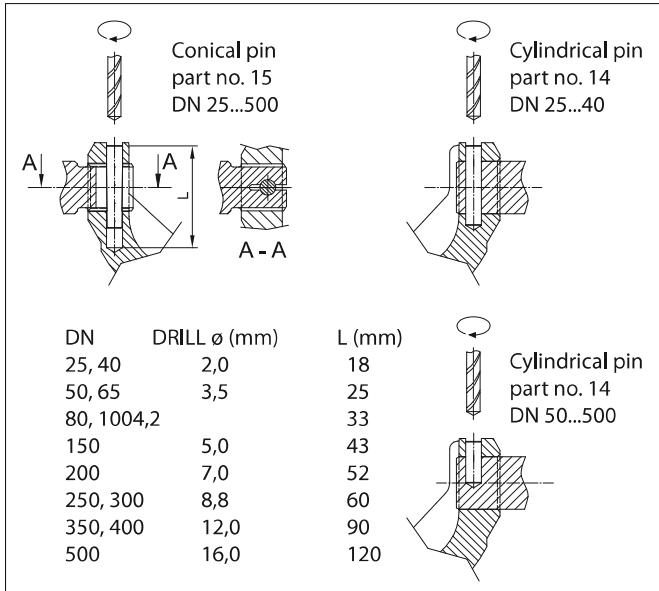
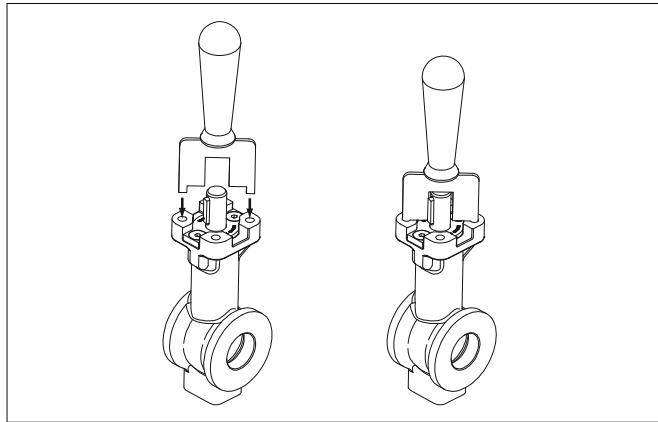
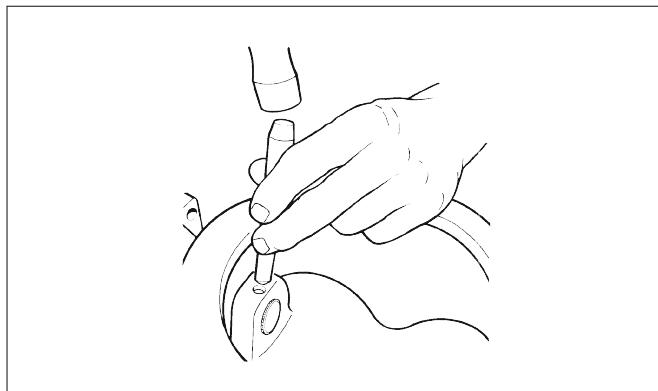

Fig. 32 Drilling the pin
Fig. 36 Using a former to check shaft position
Fig. 37 Locking a pin
- Remove the pin lockings either by grinding or using a spindle. Detach the pins (14 and 15) by drilling, Fig. 32. Be careful not to damage the original bores. Note! The pins and the drive shaft have been
- Install the drive shaft (11). Note the location of the pin hole and the keyway. See Figs. 36 and 37.
- Please note the depth of the hole (L) for the conical pin, Fig. 32. Use a former to check the proper shaft position of low Cv valves, see Fig. 36. Put the pins (14, 15) in their places and lock them, Fig. 37. Both pins are locked with TIG welding in the high-consistency acid-resistant version and in the standard and high-consistency titanium versions. Moreover, the drive shaft is welded to the segment in the high-consistency versions. Contact the manufacturer for more information.